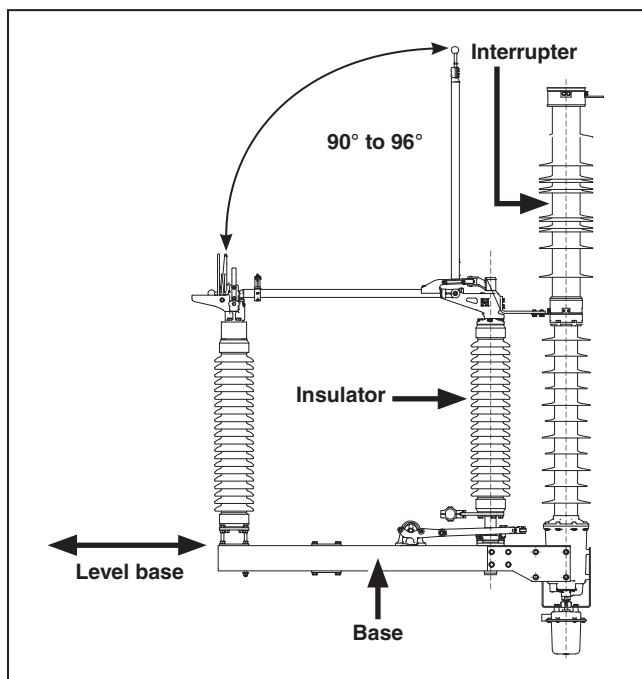

Figure 22. Check the angle of the disconnect.
**STEP 2.** Firmly crank the disconnect to its fully **Open** position. The disconnect blade should open to an angle of 90° to 96° from horizontal. See Figure 22.